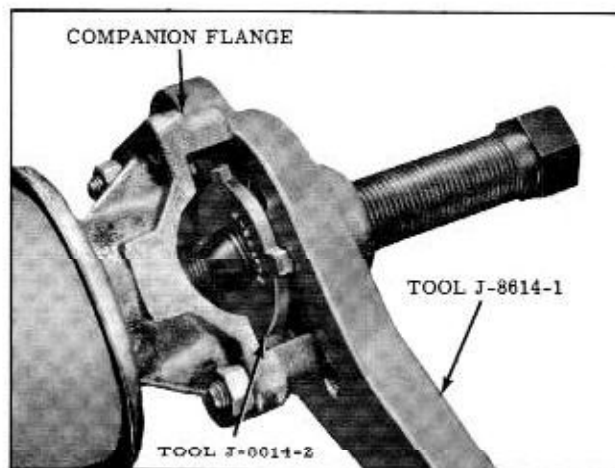

Figure 6-3 Removing Companion Flange
4. With Tool J-8614-2, remove flange. (Fig. 6-3)